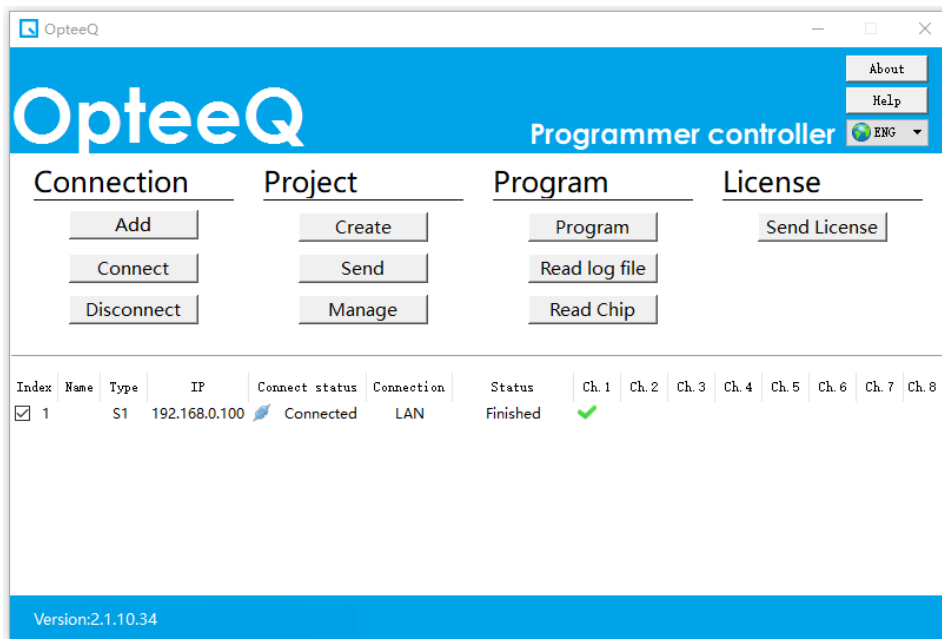

Figure 4.20: Programming Success Interface
6)When the programmer starts programming, the "BUSY/programming" LED indicator in the programmer turns red. When programming is completed, the programming result is displayed in the software interface. the programming success interface will be displayed, as shown in Figure 4.20.